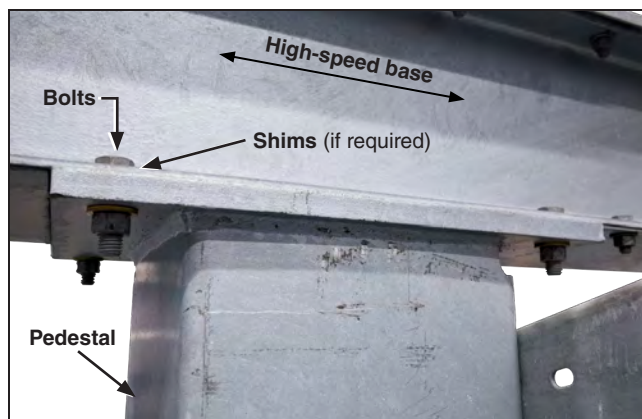

Figure 6. Shimming under the high-speed base for gaps of more than $\frac{1}{8}$ -inch (3 mm). (69-kV shown, 115- and 138-kV are similar.)
- STEP 10.** Examine the bottom of the high-speed base where it comes in contact with the support arms. If necessary, install shims between the high-speed base and the support arms to compensate for any gaps greater than $\frac{1}{8}$ -inch (3 mm) between the mating surfaces. See Figure 6.